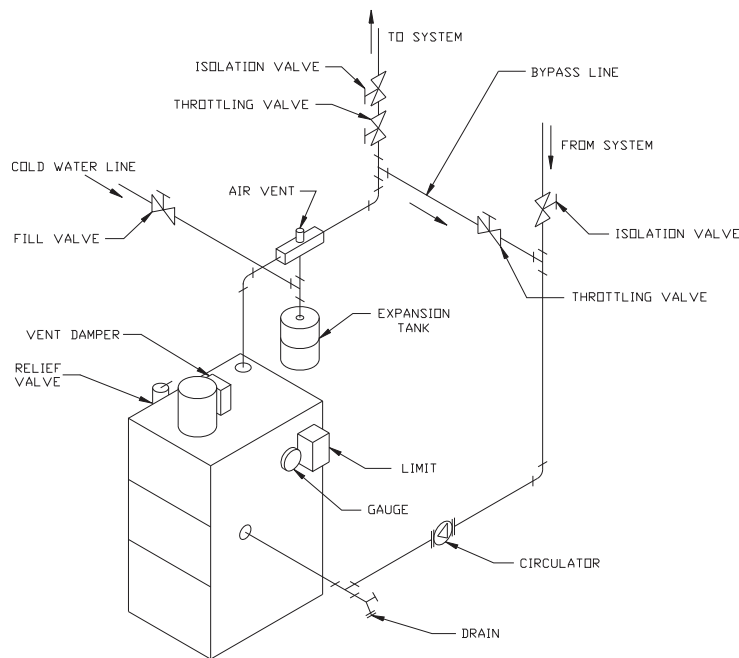

FIGURE 13: BOILER BYPASS PIPING
- 2) Large Water Volume Systems - The piping shown in Figure 13 will minimize the amount of time that the boiler operates with return temperatures below 120°F on these systems. A bypass is installed as shown to divert some supply water directly into the return water. The bypass pipe should be the same size as the supply. The two throttling valves shown are adjusted so that the return temperature rises above 120°F during the first few minutes of operation. A three-way valve can be substituted for the two throttling valves shown. If the circulator is mounted on the supply, the bypass must be on the discharge side of the circulator.
If it is desired to convert the gravity system to forced hot water, the factory supplied circulator and piping are used as is. A gravity hot water system is a "large water volume system" (see (2) above) and should be piped with a bypass as shown in Figure 13. Many gravity hot water systems have balancing orifice installed in the radiators. These orifice may need to be removed to obtain proper heat distribution when the system is converted to forced hot water.